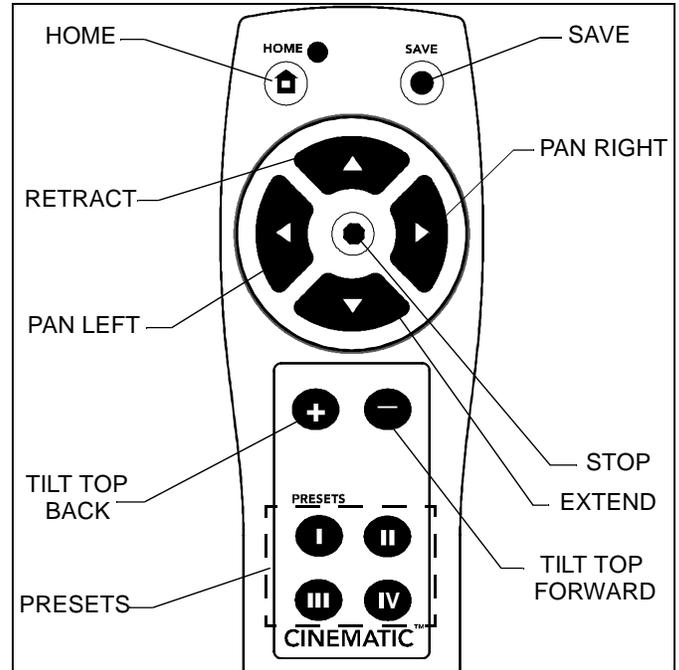

Figure 27
1. Place batteries into remote control (BB). (See Figure 27)